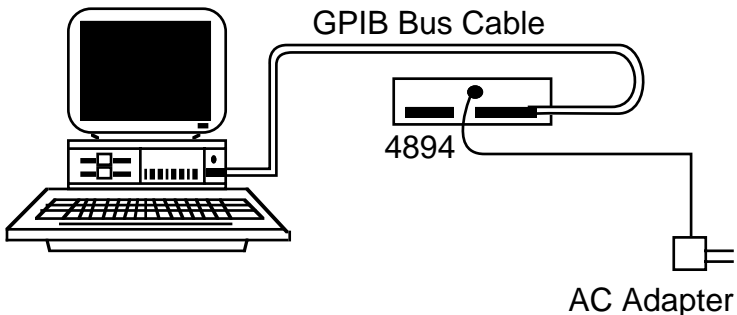

Figure 2-1 4899 Configuration Connections
1. Connect the 4899/4809 to the GPIB controller card in the PC as shown in Figure 2-1. Plug the AC adapter plug into the DC jack on the 4899's rear panel. Connect the AC adapter to an AC outlet.
1. Connect the unit to the bus controller as shown in Figure 2-1. Use an **Abort, REN** or a **take control type** command to have the bus controller assert **REN**. Then turn the unit on.